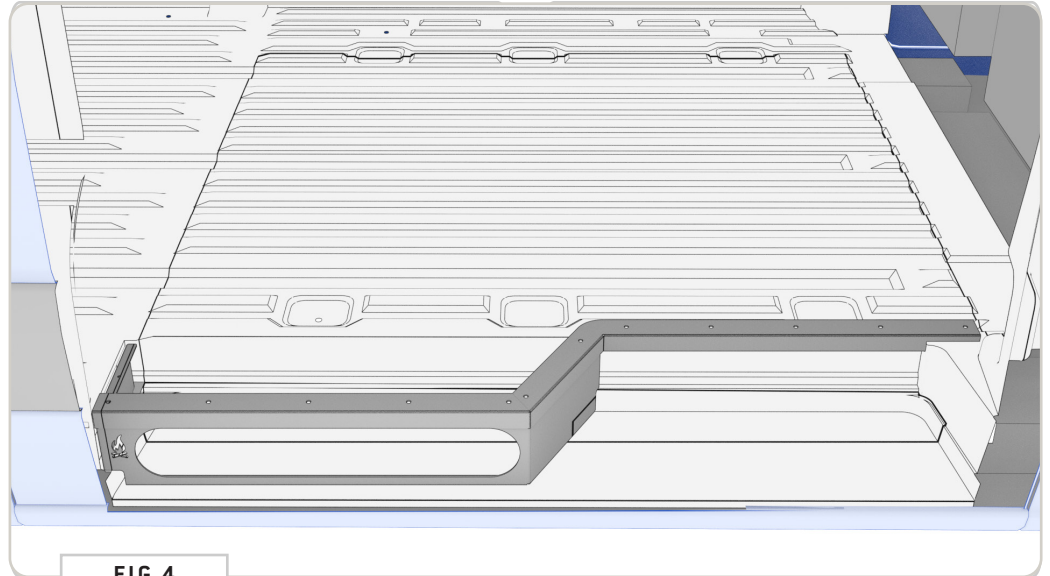
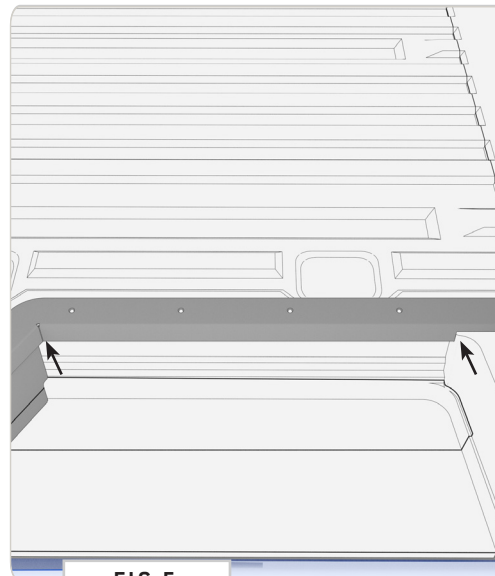
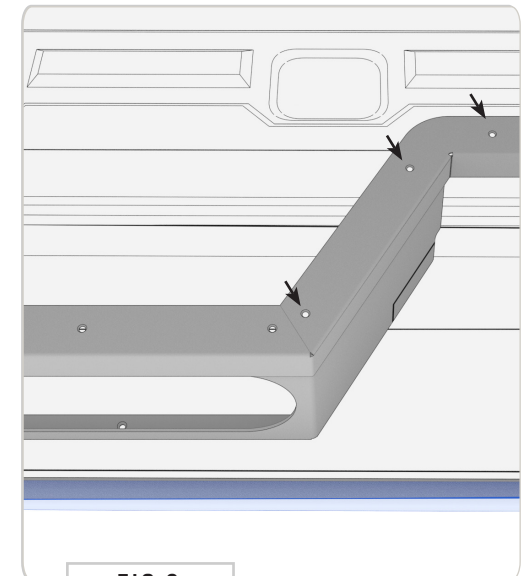

FIG 4
FIG 5
FIG 6
1.2 Confirm Fitment With The Step Extension Trim: Dry fit the **Step Extension Trim** to the **Support Extension (FIG 4)** and ensure that the bends align (**FIG 5**) and that all mounting holes are aligned (**FIG 6**) before proceeding to installation.